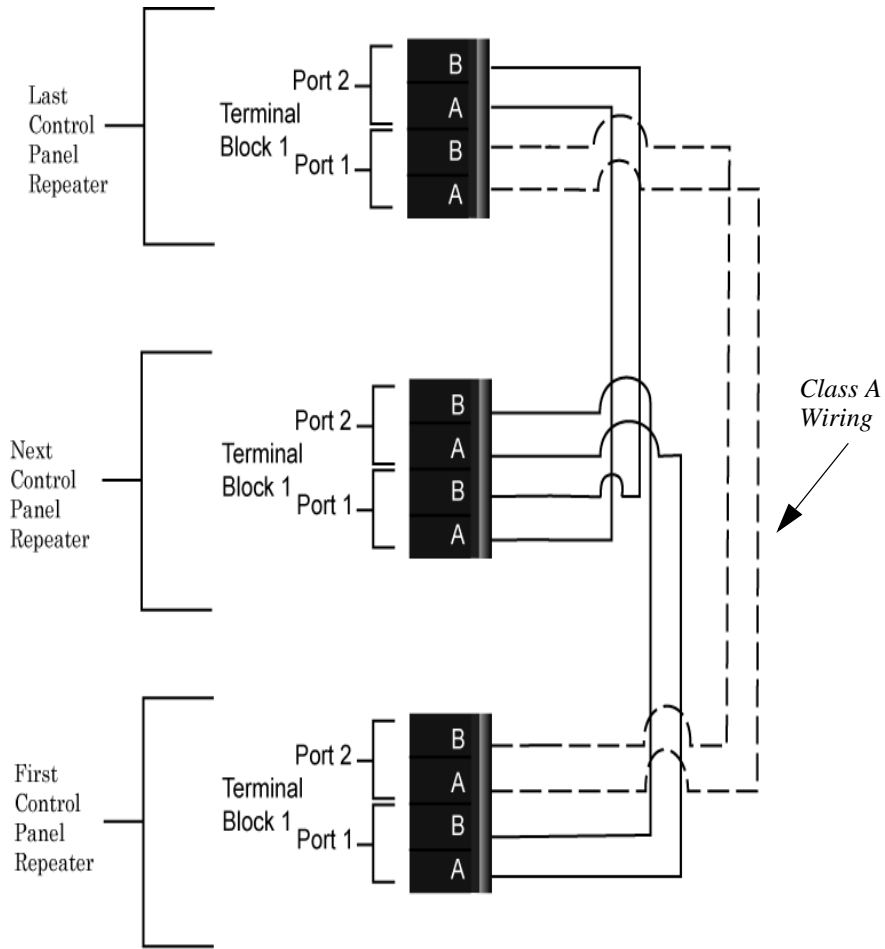
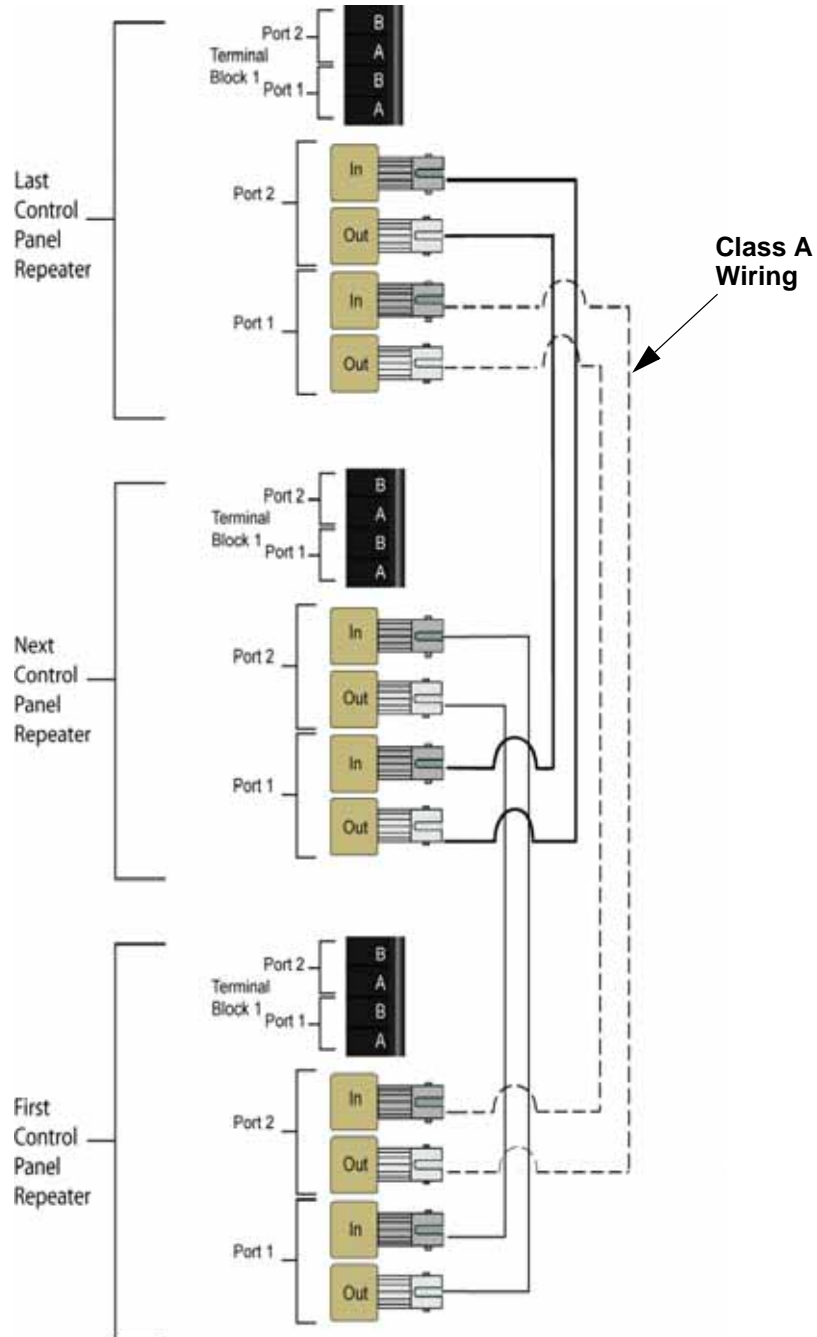
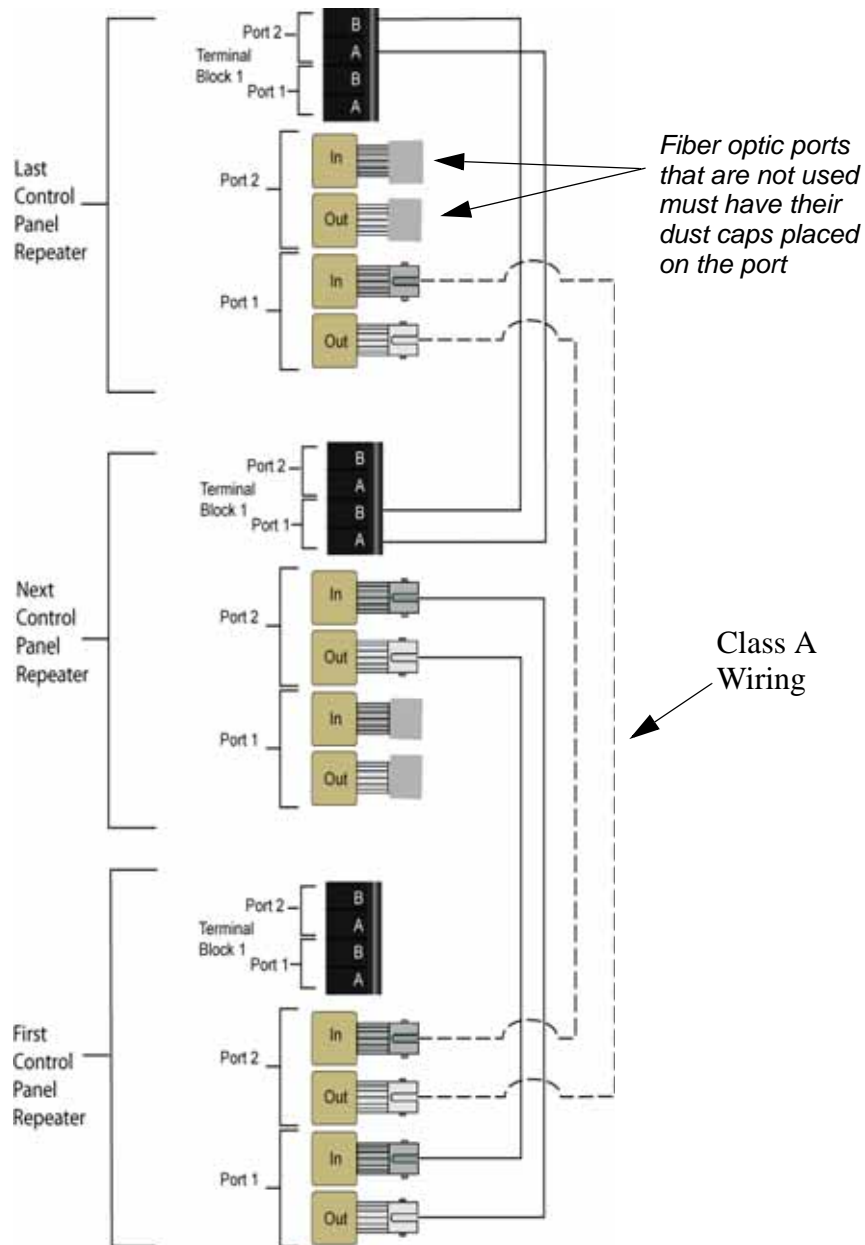
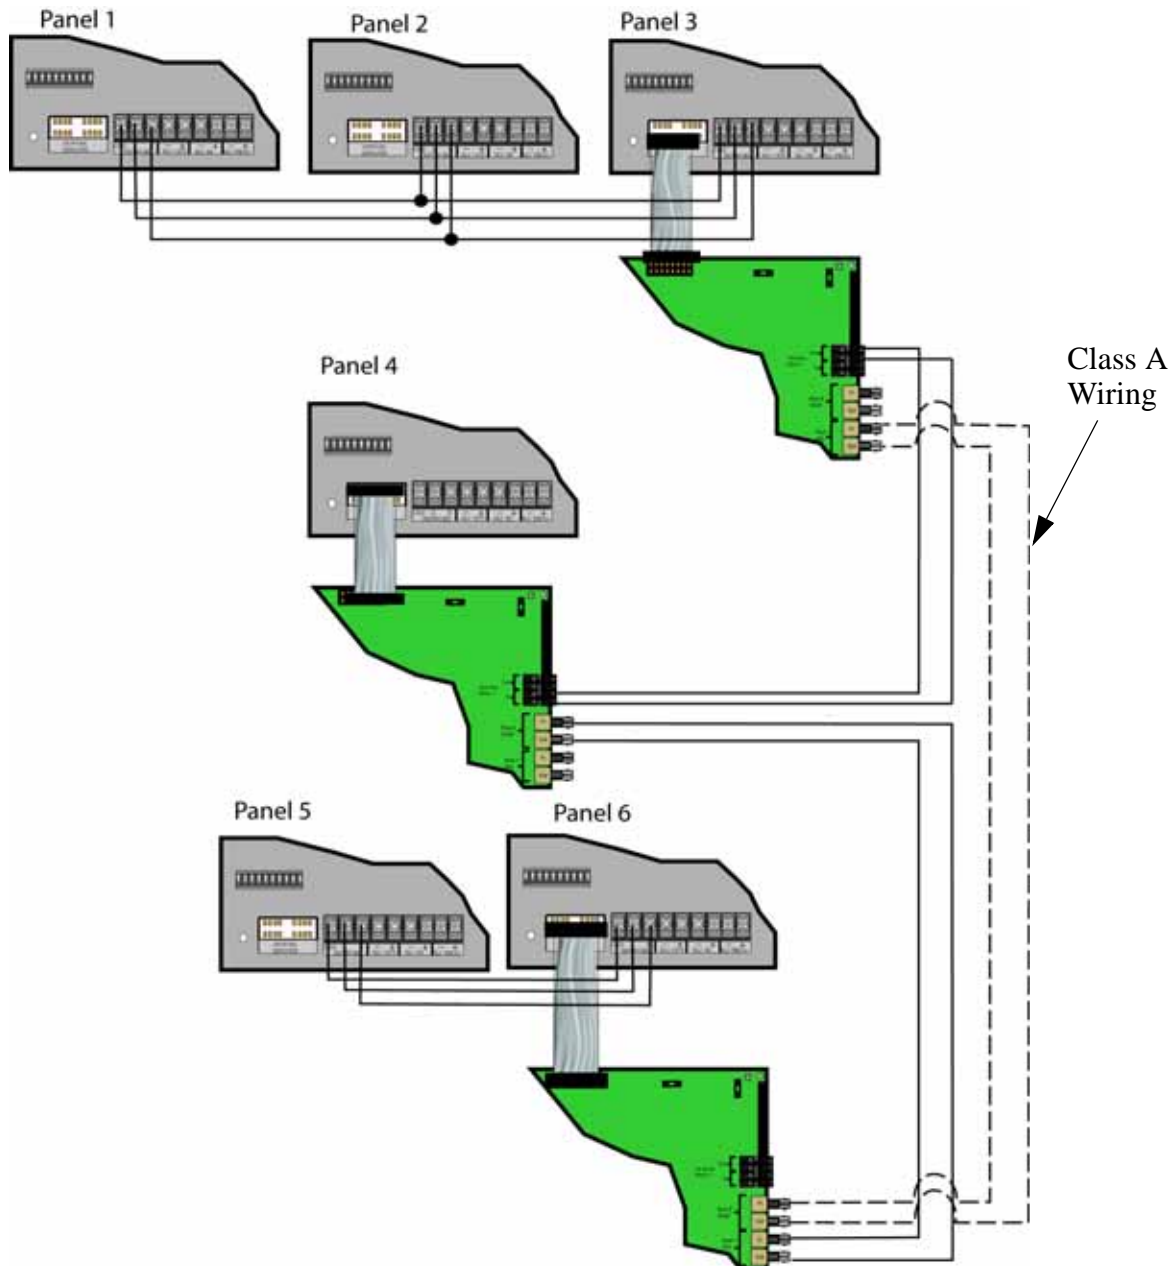

Figure 5-6 Twisted Pair Wiring Configuration
Figure 5-7 Fiber Optic Wiring Example
Figure 5-8 Twisted Pair and Fiber Optic Combination Wiring Example
Figure 5-9 Network Wiring Example using both Repeaters and Direct Connect Wiring
5. Based on the type of network repeater board chosen, run the twisted pair wiring /fiber optic cable to the next network repeater using a BUS or style 7 (class A) wiring method. A combination of both repeater types can be used. See Figure 5-6, Figure 5-7, Figure 5-8, and Figure 5-9 for repeater wiring examples.
Unshielded twisted pair wiring between multiple panels is shown in Figure 5-6. Class A wiring is shown with a dotted line.
Fiber optic cable between multiple panels is shown in Figure 5-7. Class A is shown with a dotted line.
A mixture of fiber optic cable and twisted pair wiring between multiple panels is shown in Figure 5-8. Class A cabling is shown with dotted line.
Figure 5-9 below shows a network wiring example using both repeaters and direct connect wiring. All repeaters in the system must be placed only on panels that are at the ends of a direct connect BUS or connected to panels with no direct connect network wiring.
The following text details how the panel and repeater terminators must be set for the network example in Figure 5-9.